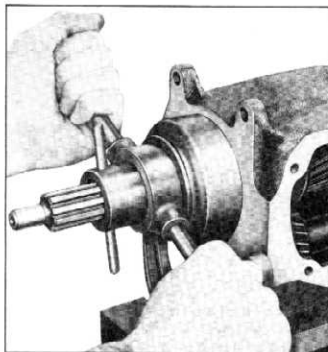

Fig. 6—Removing Clutch Gear and Bearing
4. Install the special clutch gear and bearing puller J-937 by screwing the threaded sleeve (left-handed thread) onto the clutch gear shaft. Turning the puller handle will remove the gear and bearing without damage to mainshaft pilot bearings (fig. 6).